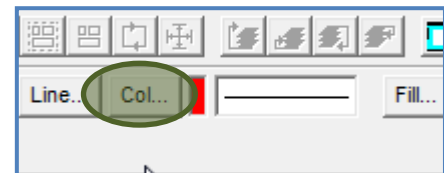

Figure 16
- Set the colour to red by clicking on the "Col" button (Figure 16).